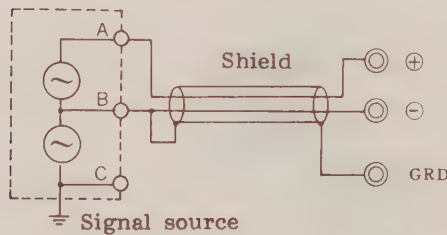

Fig. 4-3
- 2 For signal sources which have a bias voltage, use the side having a low impedance with respect to ground as the (-), as shown in Fig. 4-3 (with the shorting bar removed).